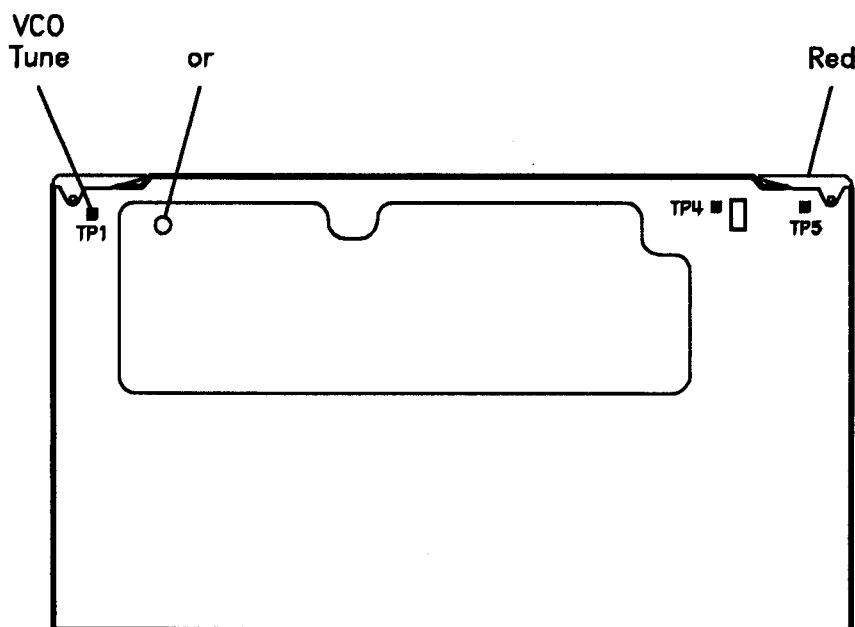

Figure 5–7. VCO Tune Adjustment Location
10. Center the photometer on the analyzer CRT as shown in Figure 5–3. Adjust the analyzer front panel knob until the photometer registers 100 NITs of output light if the glass bezel assembly is not installed. Adjust for 60 NITs if the glass bezel is installed.
1. Connect the instruments as shown in Figure 5–6. Make sure the drive is set to HP–IB address 00.
1. Remove the instrument top cover. If VCO TUNE on the A12 assembly (red extractors) is accessible, continue with step 2. See Figure 5–7. Otherwise, install the A12 assembly on the extender. Use SMB cables as required (the EXT REF cable need not be reconnected now).